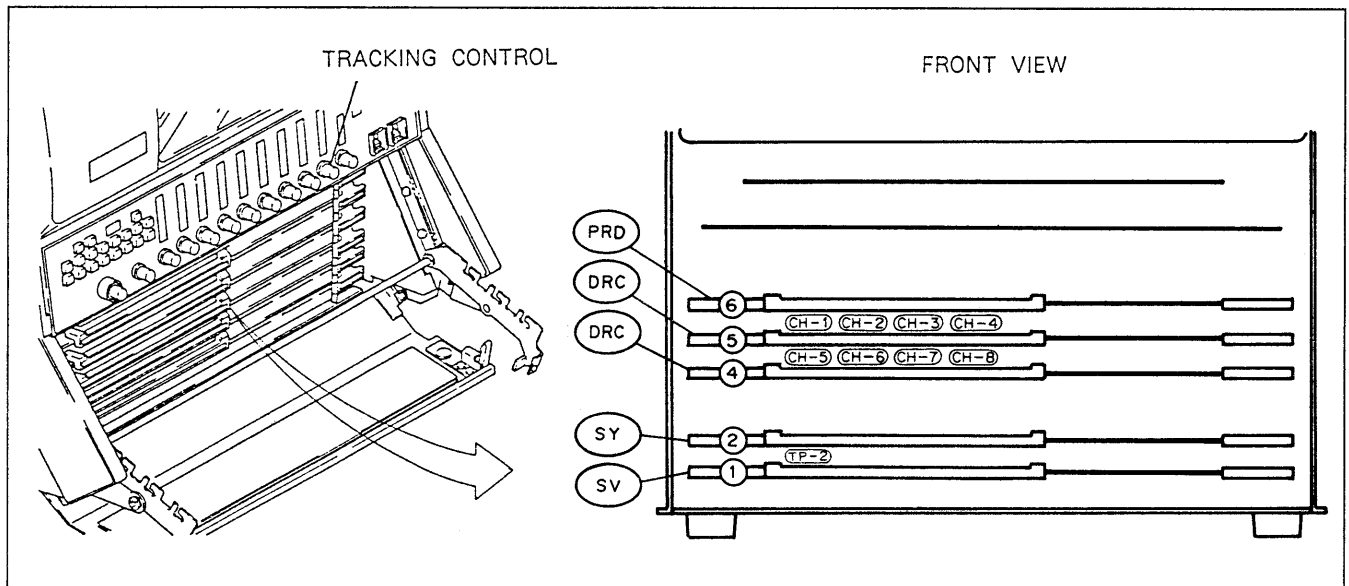

Fig. 5-2-10. Boards Allocation
2. Connect UM connector side of the BNC-UM cable to CH-1 terminal on the DRC-1 board (slot No.5) as shown in Fig. 5-2-10.